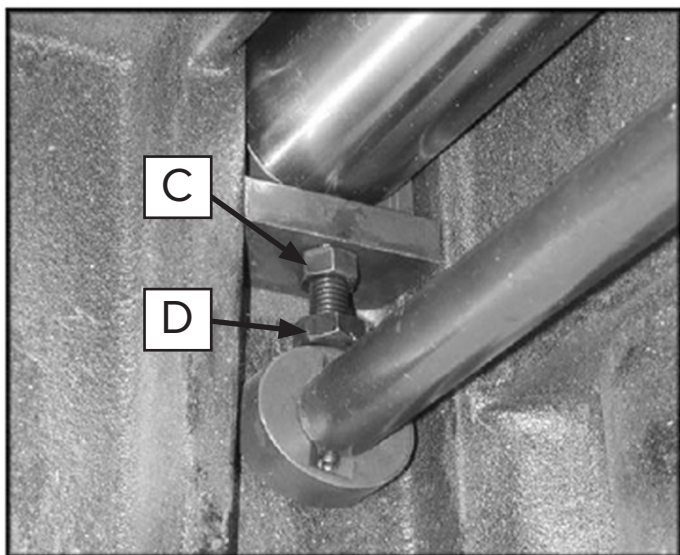

Figure 21: Adjusting Table Rollers.
3. **Check and Adjust:** Move the straight edge to the opposite side of the bed roller. Ensure the roller just contacts the straight edge. If it does not, loosen the hex nut (C, Figure 21) and adjust the hex cap bolt (D, Figure 21) to raise or lower the bed roller until it just contacts the straight edge.